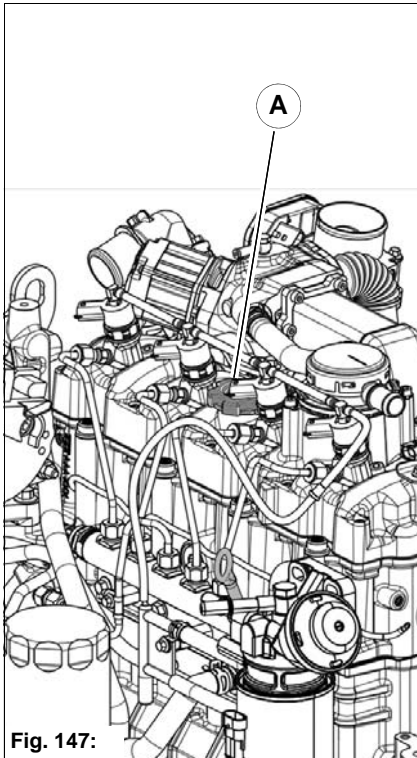

Fig. 147:
3. Remove the engine cover and clean the area around the filler cap **Fig. 147-A** with a lint-free cloth.
6. Close the filler opening again with the filler cap **Fig. 147-A**.